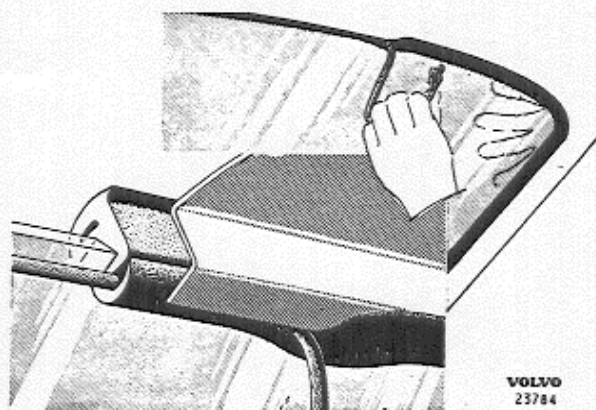

Fig. 45. Fitting the windscreen
4. Lay the pane with the rubber weatherstrip in the opening and push it firmly against the body. Use the other hand to pull the cord so that the edge of the rubber weatherstrip comes into its place. See Fig. 45.